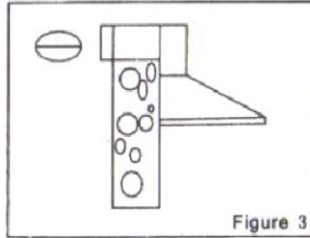

Figure 3
3. Requests for the installation of smoke pipe (shown in figure 3)